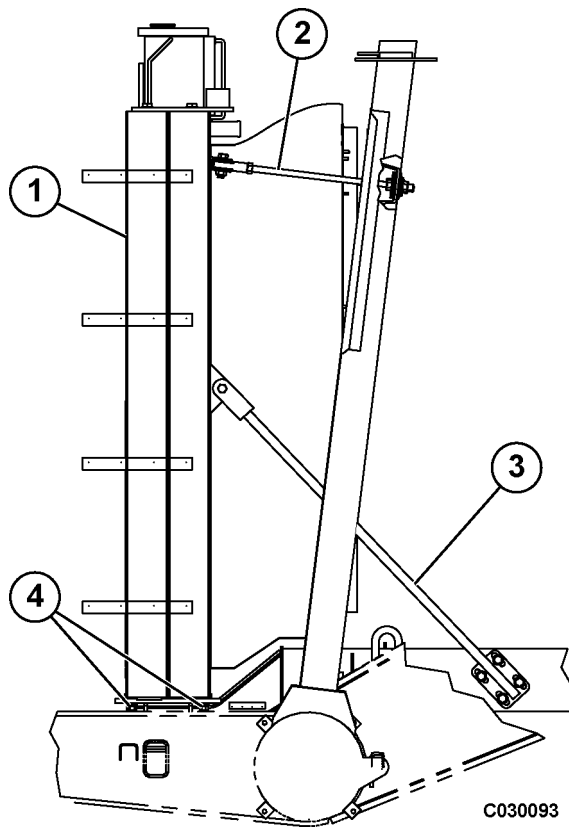

FIGURE 3-5. RADIATOR MOUNTING
2. Install radiator mounting hardware (4, Figure 3-5) at the lower radiator mounting brackets. Do not tighten at this time.
3. Inspect the rubber bushings for upper support rods (2) and replace them if worn or damaged.
4. Install upper support rods (2) and the mounting hardware at both ends. Do not tighten at this time.
6. Tighten radiator mounting hardware (4) at the lower radiator mounting brackets to the standard torque.
7. For added stability, stabilizer bars (3) may be installed. Install the stabilizer bars at the radiator brackets and subframe as shown, then tighten the mounting hardware to the standard torque.